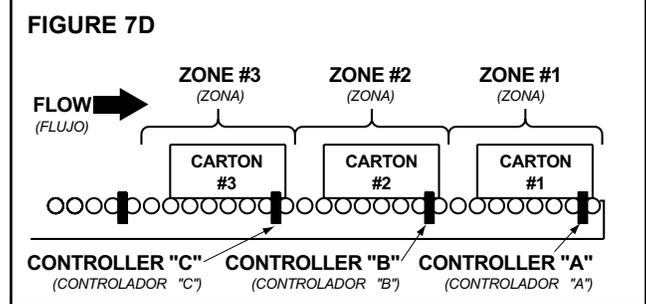

FIGURE 7D
LOADING THE CONVEYOR (Figure 7D)
2. When load #1 activates controller "A", Zone #1 stops driving. A signal is sent to Zone #2 indicating that Zone #1 is occupied (Figure 7D).